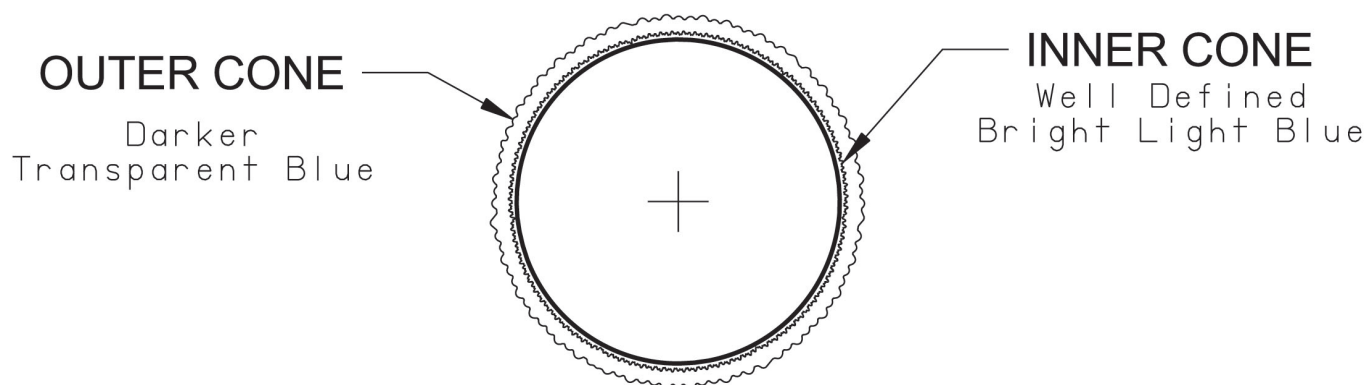

Figure 12.3: Burner Flame
14. Inspect the flame visible through the window. On high fire the flame should be stable and mostly blue (Figure 12.3). No yellow tipping should be present; however, intermittent flecks of yellow and orange in the flame are normal.